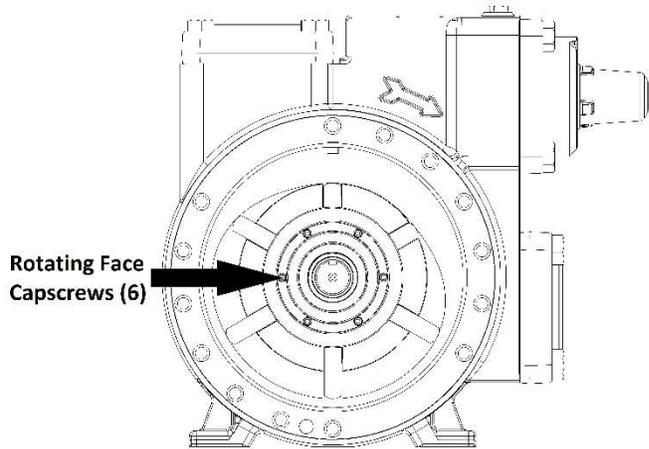

Figure 11 – Rotating Face Disassembly
18. Remove seal cartridge capscrews (21A) and insert two of these capscrews into threaded holes on seal cartridge. Use the protruding capscrews as handles and pull seal cartridge assembly (153) away from pump housing (12). Bearing (24) will remove with seal cartridge assembly (153). If bearing is not free from the shaft, the three threaded holes on seal cartridge can be used as jackscrews to remove bearing from shaft.
19. Remove the head capscrews (21) and head (20).
20. Remove 6 socket head capscrews from the rotating face. See Figure 11 for details. Discard screws, they should not be reused.
21. With 2 small pry bars, carefully remove rotating face from rotor/shaft (13)